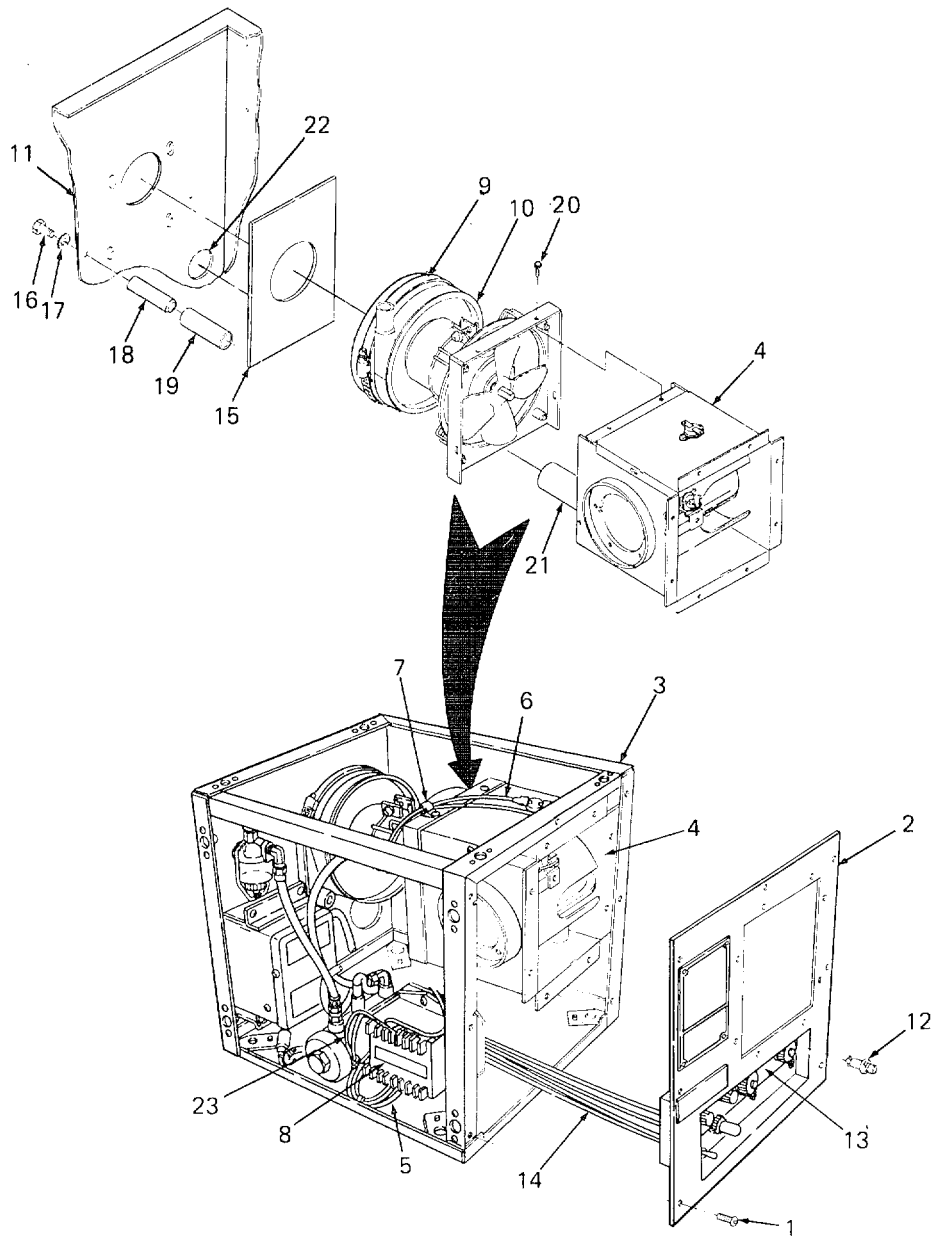

Figure 5-5. Replacing Blower/Motor/Vent Assembly.
REMOVAL (Figure 5-5)
8. Install fan (7) to motor shaft, aligning set screw (6) with flat on motor shaft, and secure.
9. Install four wellnuts (5) in fan mount plate (4).
10. Align fan mount plate (4) to the motor mount (3). Secure with four screws (1) and four washers (2) to wellnuts (5) on fan mount plate (4). Torque to 5 lb-in.
11. Position the blower/motor/vent assembly to the heat exchanger (4, figure 5-5) and secure with four screws (20).
INSTALLATION (Figure 5-5)